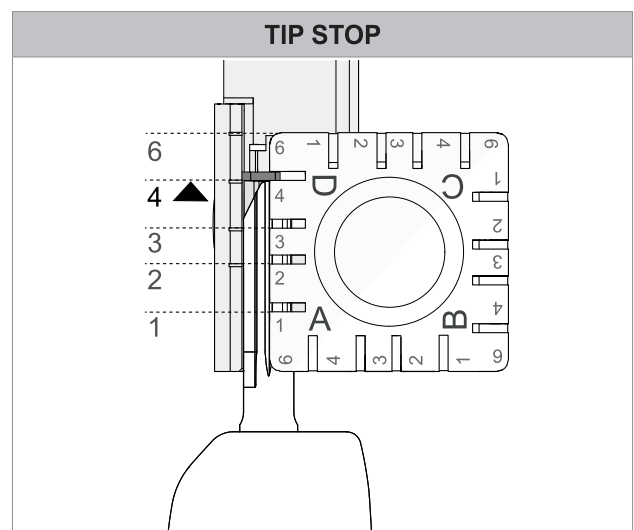
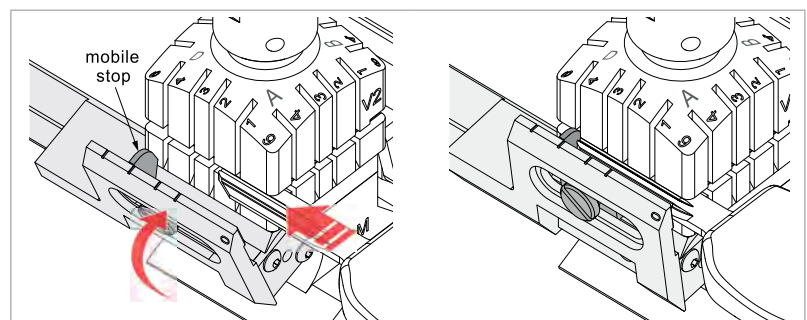

Fig. 57
Fig. 58 - mobile stop
- To fit keys with tip stops into the clamp, use the mobile stop on the gauge (Fig. 58) to be fitted into the special grooves (Fig. 57).